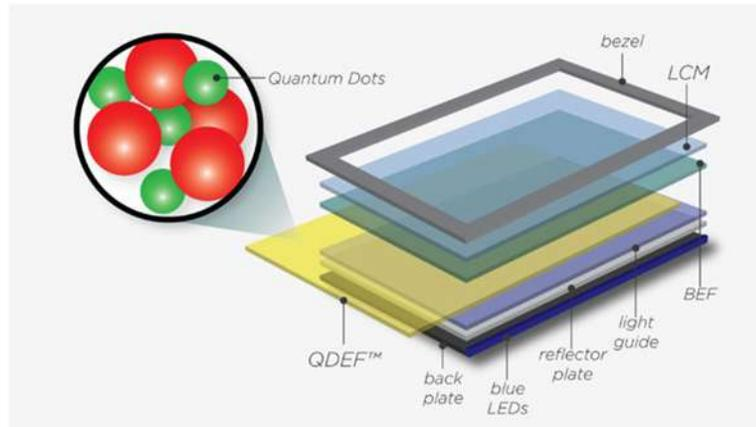

Fig. 6: Exploded view of QD display. QDEF layer is added to conventional LCDs and the back light is changed to Blue LED.
giving rise to many applications. In the language of materials science, Nano scale semiconductor materials tightly confine either electrons or electron holes. Quantum dots are also sometimes referred to as artificial atoms, a term that emphasizes that a quantum dot is a single object with bound, discrete electronic states, as is the case with naturally occurring atoms or molecules. Quantum dots exhibit properties that are intermediate between those of bulk semiconductors and those of discrete molecules. Their optoelectronic properties change as a function of both size and shape. Larger QDs (radius of 5–6 nm, for example) emit longer wavelengths resulting in emission colours such as orange or red. Smaller QDs (radius of 2–3 nm, for example) emit shorter wavelengths resulting in colours like blue and green, although the specific colours and sizes vary depending on the exact composition of the QD. Quantum dot (QD) technology is emerging as a novel back- light source that could help to increase the colour performance of LCDs. QDs are composed of nanoparticles with diameters of 5–20nm. When charge carriers (electrons and holes) are confined to such small particles, the larger band gap of the surrounding material creates a barrier. The discrete energy levels that arise as a result of this barrier consequently dictate the material properties. This effect (size quantization) gives QDs several attractive features, including high quantum efficiency, a broad absorption band, narrow emission line width, and a controllable emission peak. Figure 5 shows the emission properties of the QD samples that we used, which have a cadmium sulphide/selenide core and a zinc sulphide shell ( $\text{CdS}_x\text{Se}_{1-x}/\text{ZnS}$ : the ratio of CdS is a variable,  $x$ , while the ratio of CdSe is  $1-x$ ). Their luminescence is quite narrow (full width at half-maximum is 30nm), which yields highly saturated colour emissions. In addition to this, the emission wavelength can be tuned by varying both the size and composition of the QD during material synthesis. Cadmium Selenide QDs of different sizes, for example, can emit light from blue (450nm) through to red (700nm) wavelengths. So adding a Quantum Dot Layer to the LCD layers and changing the back light LED to a blue LED can make an LCD to QD display as you can see in Figure 6. [1], [7], [8], [17].